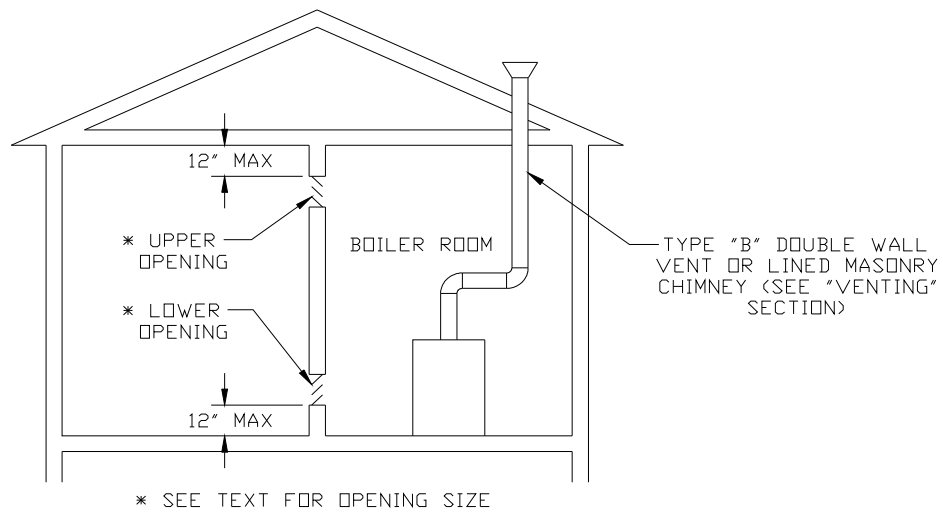

FIGURE 3: BOILER INSTALLED IN CONFINED SPACE,
- 3) Confined Space - Provide two openings into the boiler room, one near the floor and one near the ceiling. The top edge of the upper opening must be within 12" of the ceiling and the bottom edge of the lower opening must be within 12" of the floor (Figure 3).